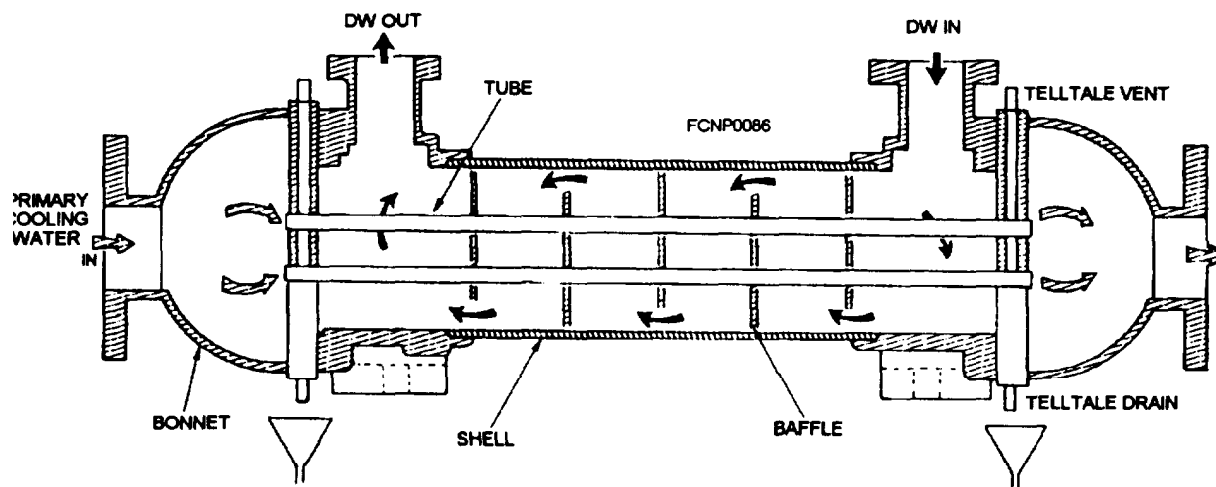
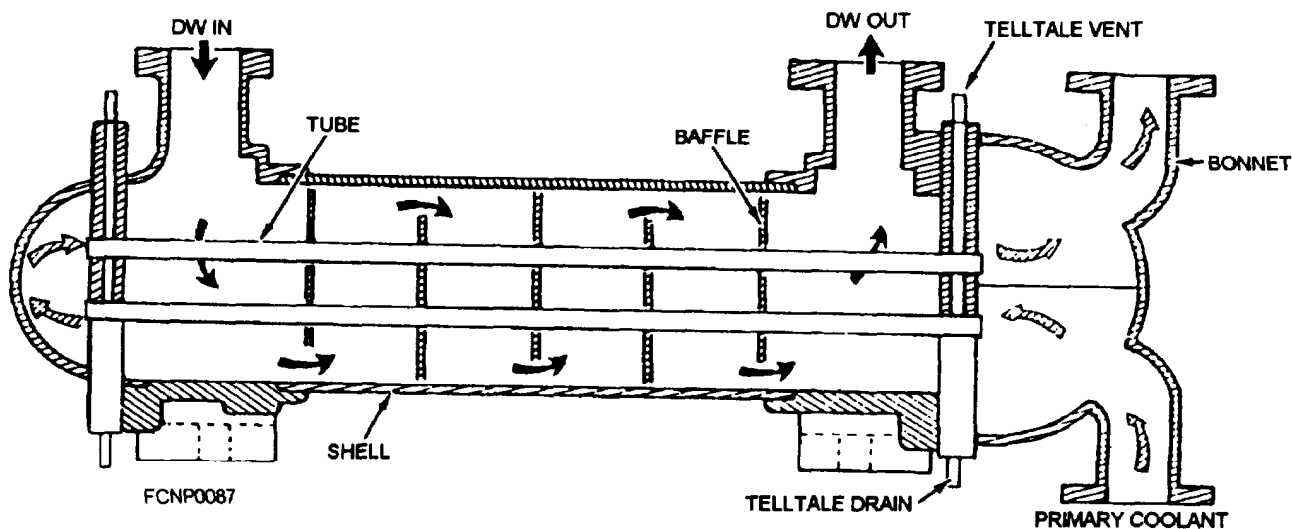

Figure 1-9.—Single-pass SW/DW heat exchanger with double-tube sheets.
Figure 1-10.—Two-pass SW/DW heat exchanger with single-tube sheets.
electronic components is transferred to the primary cooling system, which contains either seawater or chilled water from an air-conditioning plant. In both cases (figs. 1-9 and 1-10), the heat exchangers are of the shell- and tube-type in which the secondary coolant (distilled water) flows through the shell, while the primary coolant (seawater or chilled water) flows through the tubes.
A single-pass counterflow heat exchanger (fig. 1-9) is more efficient than the double-pass heat exchanger, because there is a more uniform gradient of temperature difference between the two fluids. In figure 1-9, the primary coolant (SW/CW) flows through the tubes in the opposite direction to the flow of the secondary coolant (DW). Heat transfer occurs when the seawater flows through the tubes; extracting heat from the distilled water flowing through the shell side of the heat exchanger. The distilled water is directed by baffles to flow back and forth across the tubes as it progresses
along the inside of the shell from inlet to outlet. In figure 1-9, the preferred method of double-tube sheet construction is shown. Single-tube sheet construction is shown in figure 1-10.